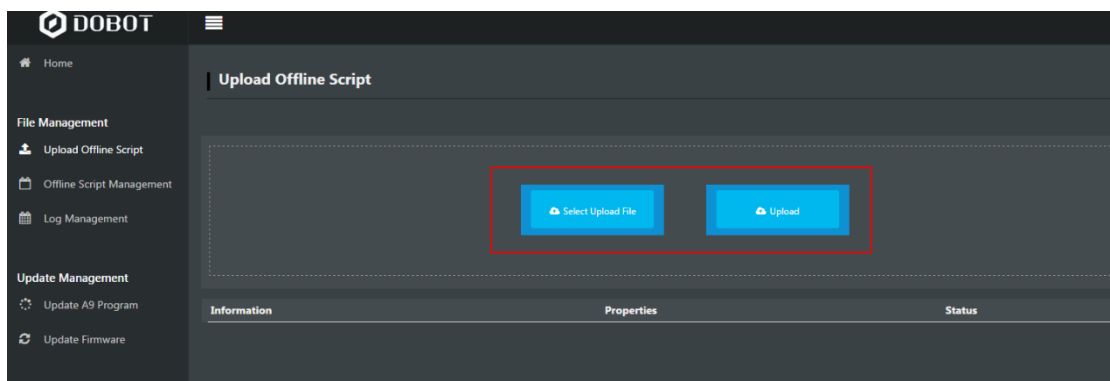

Figure 6.53 Upload script
2. Click **Tools > Web Management > Upload Offline Script** to upload the script to the main controller, as shown in Figure 6.53.